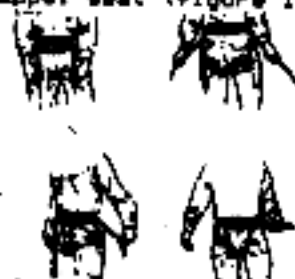

Figure 10-15. Rappel seat.
(3) Seat hip rappel
- (a) Tie rappel seat (figure 10-15).